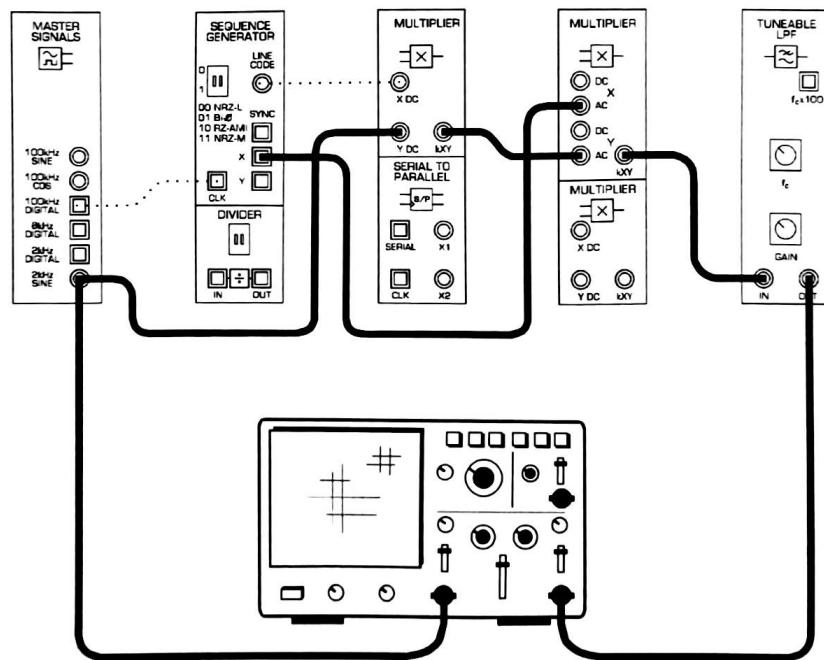
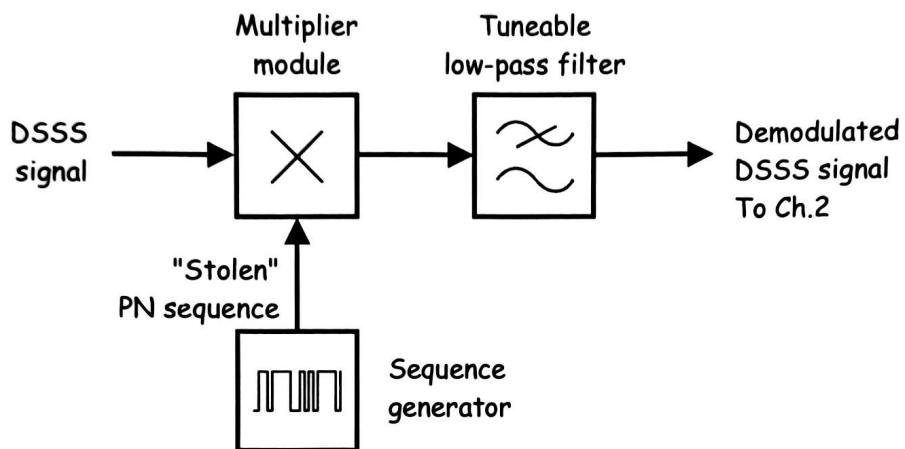

Figure 4
Figure 5
18. Disconnect the plugs to the Speech module's output and modify the set-up as shown in Figure 4 below.
The additions to the set-up shown in Figure 4 can be represented by the block diagram in Figure 5 below. The Multiplier and *Tunable low-pass Filter* modules implement a product detector which recovers the original message from the DSSS signal. To facilitate this, the PN sequence used for the modulator's carrier is "stolen" for the product detector's local carrier (though it's stolen from the module's *X* output but the sequence is the same).